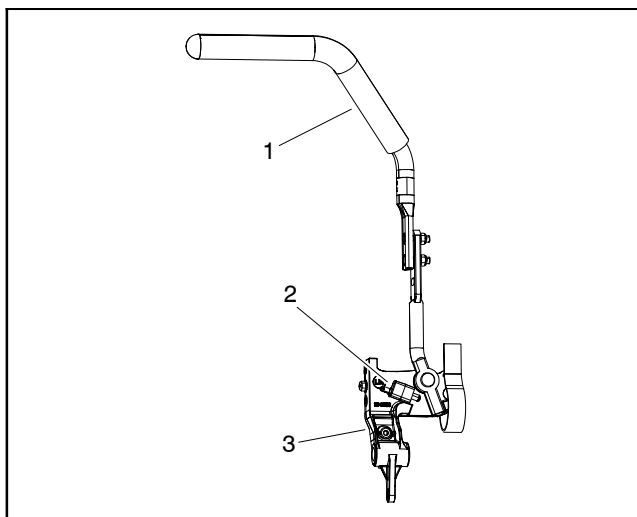

Figure 17
The Sand Pro 2040Z use two (2), identical traction neutral switches. These switches are normally open and close when the motion control handles are in the neutral locked position. The neutral switches are attached to the motion control bracket at the lower end of the motion control handle assembly (Fig. 17).